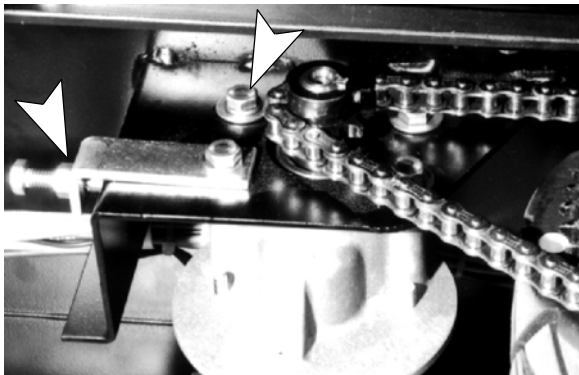

FIG. 27
2. Loosen locking nut on tension bolt (Figure 27).